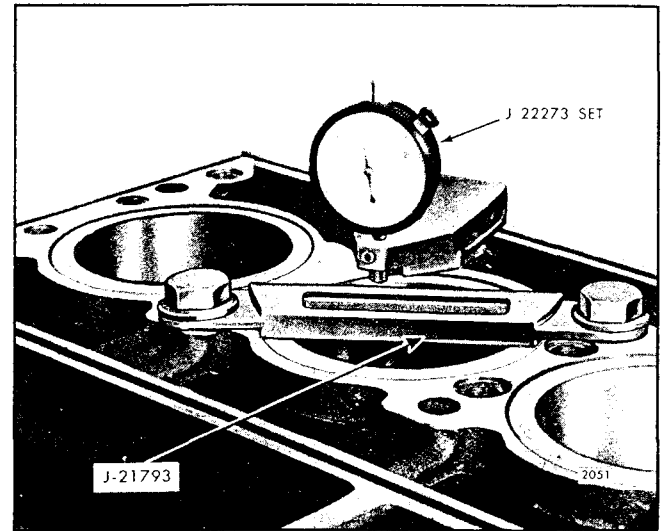

Fig. 5 - Checking Distance of Liner Flange Below Top Face of Block
3. Clamp the liner in place with hold-down clamp J 21793 and measure the distance from the top of the liner flange to the top of the block with dial indicator set J 22273 (Fig. 5). The top of the liner flange should be .0465" to .050" below the top of the block, and there must not be over .0015" difference between any two adjacent liners when measured along the cylinder longitudinal center line. If the above limits are not met, install the liner in another bore and recheck, or use a new liner.
3. If any of the pistons and liners are already in the engine, use hold-down clamps (Fig. 5) to retain the liners in place when the crankshaft is rotated.